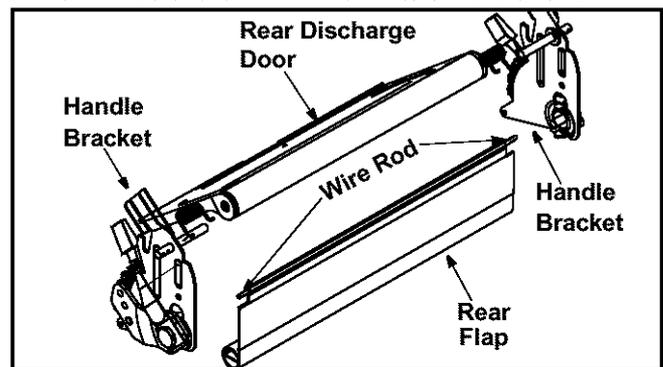

Figure 16
1. To remove rear flap, cut off the flat end of the wire rod which secures it to the deck. See Figure 16 .